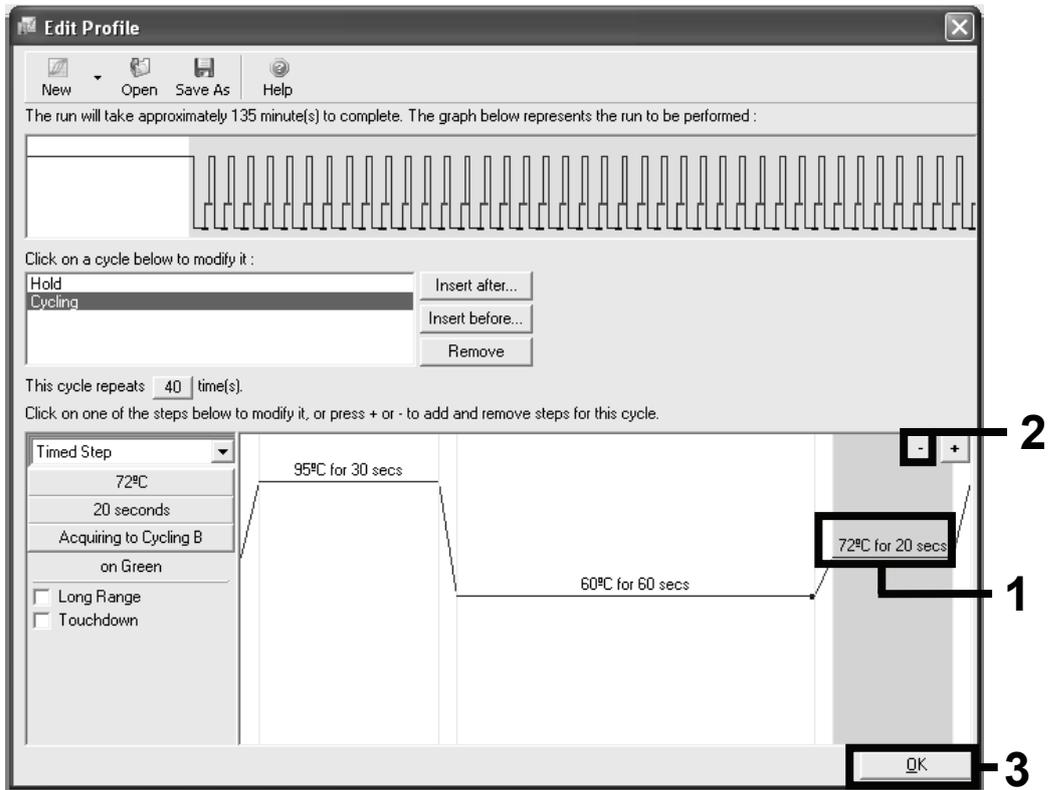

Figure 9. Removal of extension step.
16. Highlight the third step and delete by clicking the "-" button. Click "OK" (Figure 9).